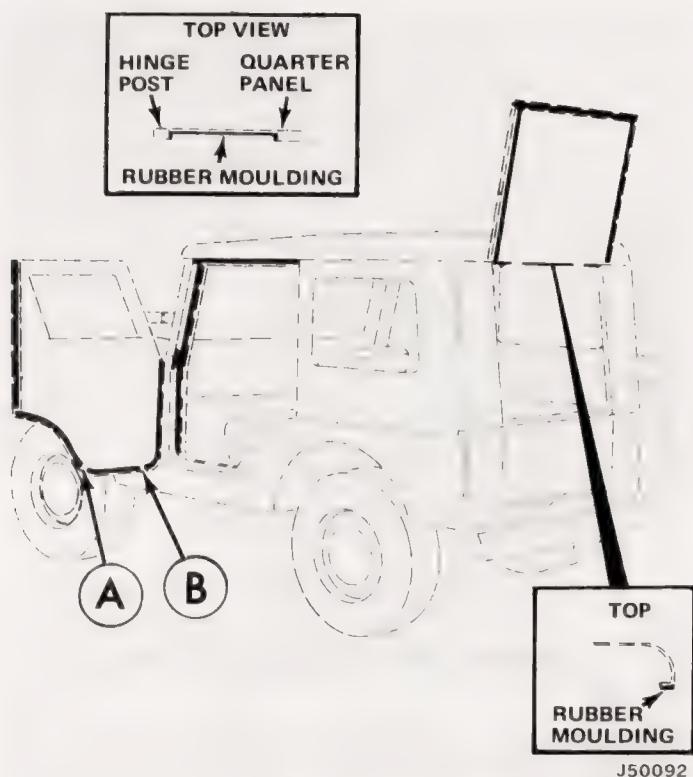

Fig. 2-26 Rubber Moulding Installed
from outside edge, and extending from top of door to bottom corner (fig. 2-26).
(2) Butt second strip against lower end of vertical strip, parallel to and 1/8 inch from outside edge, and extend down along bottom of door and up hinge side. Trim surplus material and cut two vertical 1/4-inch wide drain channels at locations A and B (fig. 2-26).
(3) Apply horizontal strip along top of door opening, beginning on back side of adapter bracket, and extending around corner onto front edge of quarter panel.
(4) Apply vertical strip along front edge of door opening, but top of strip against bottom of horizontal strip, and extend it down to bottom of adapter bracket.
(5) Apply vertical strip from bottom of adapter bracket, extending it down to beginning of radius at bottom corner of door opening.
(6) Apply 8-inch strip at right angle to vertical strip installed above, with its top end at bottom of adapter bracket.
(7) Check door operation and adjust strikers if necessary.